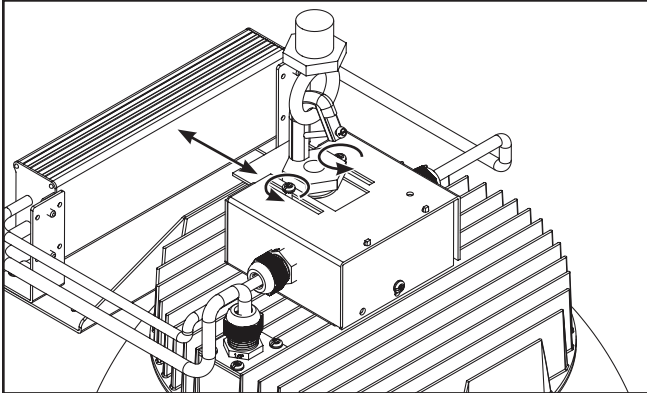

Figure 3.
- 7. Loosen the 2 screws on top of the adjustable mounting plate by 1.5 turns, then slide the adjustable mounting plate until luminaire hangs level, using water level to assist if necessary. Retighten the 2 screws. (Figure 3)